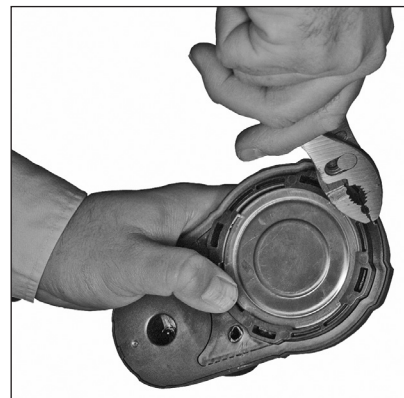

Figure 52: Pull tab to remove the breakaway plate
- Grasp the pull tab located to the right of the encoder seal screw with pliers (Figure 52). Then pull and remove the bottom breakaway plate from the housing to expose the wire. The plate is scored to facilitate removal.